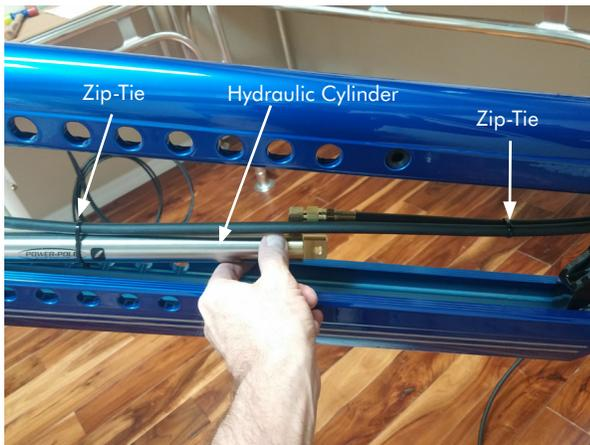

Figure 4
STEP 3 Cut both **Zip-Ties**. **FIG 4**
STEP 4 Secure the **UP & DOWN Hydraulic Hoses** together about 4" to 5" from the bottom of **Hydraulic Cylinder** using a **Zip-Tie**. **FIG 4**